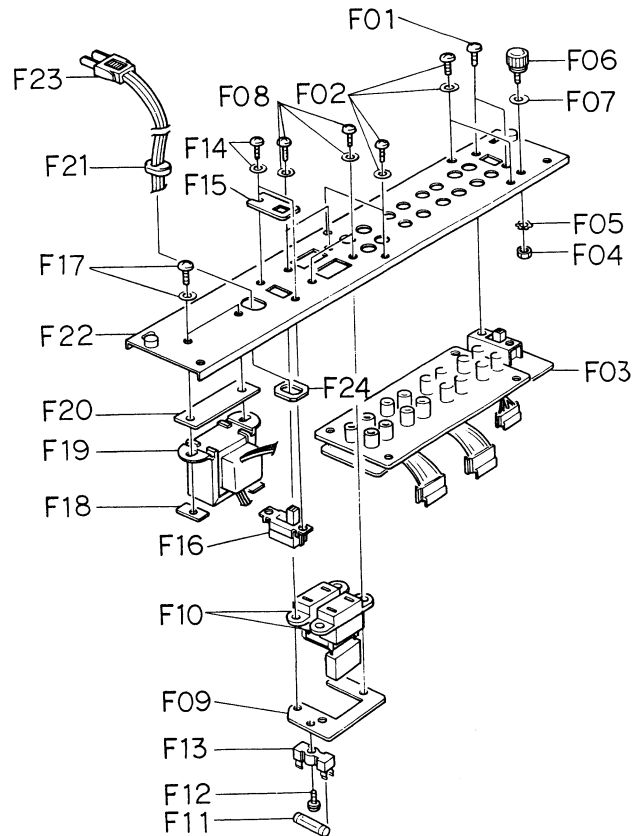

Fig. 3.3
Refer to Fig. 3.3. Remove cabinet ass'y referring to item 3.1. Remove F01 and F02, then F03 (pin jack P.C.B. ass'y). Remove F04 and F05, then F06 (ground terminal) and F07. Remove F08 (four places) and F09, then F10 (outlet). Remove F11 and F12, then F13 (fuse holder). Remove F14 and F15, then F16 (voltage selector switch). Remove F17 and F18, then F19 (power transformer) and F20 (transformer spacer). Remove F21 and F22 (rear panel sub ass'y), then F23 (power cord) and F24.